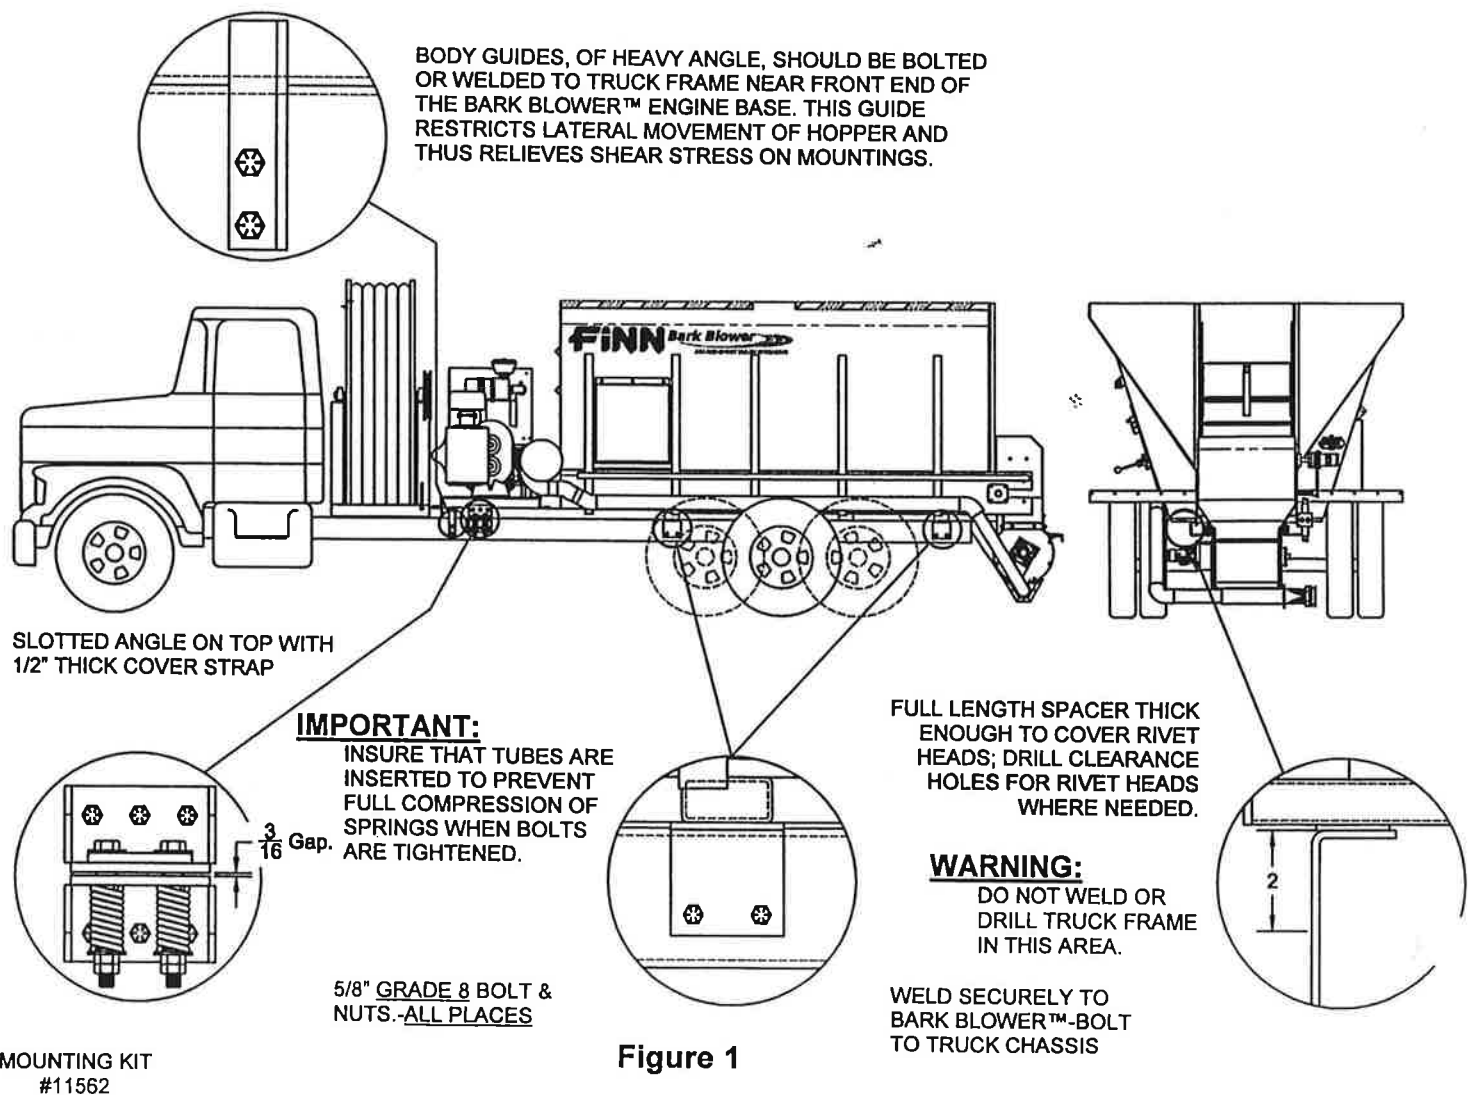

Figure 1
2. Follow mounting instructions given in figure 1(Page 10). If mounting conditions require deviation from these instructions, consult the factory.